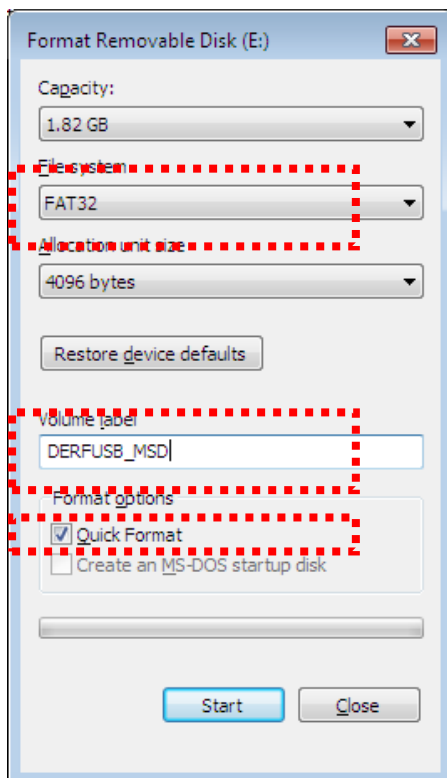

Figure 13: Formatting the MSD
4. The MSD should be formatted for proper work. Choose the FAT32 file system and, if necessary, a new volume name (**Figure 13**). The option 'fast formatting' is useful.